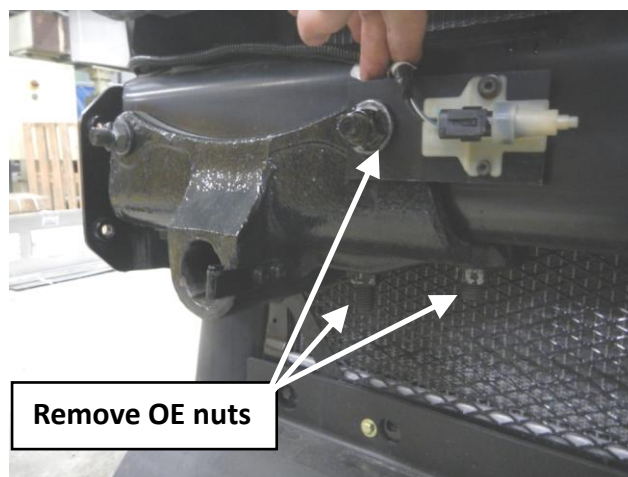

Figure 2
2. Remove nuts from three places on truck cast tow-hook mount as shown in Figure 2.